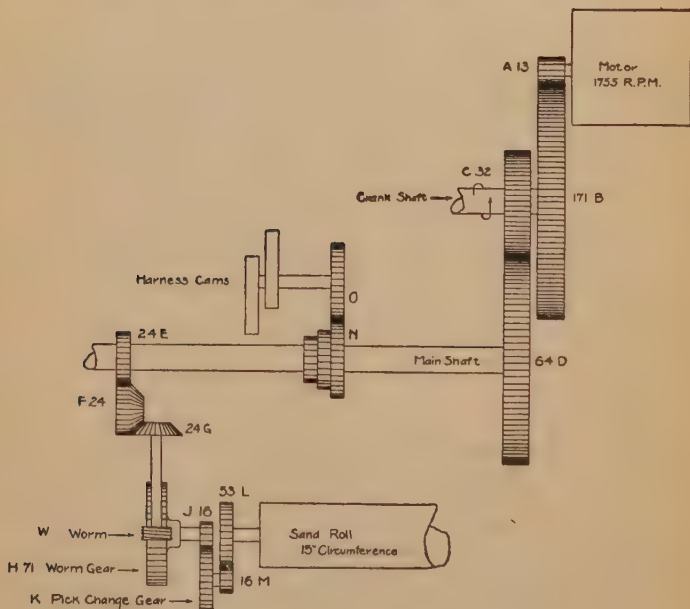

Figure 2. TAKE-UP GEARING OF A LOOM WITH A SINGLE WORM TAKE-UP
4. How many picks per minute does the loom in figure 2 make?
5. If gear *B* (figure 2) were replaced by a 15" pulley driven by an overhead driving pulley making 150 R.P.M., what should be the size of the driving pulley to obtain the picks per minute found in problem 4?
Figure 2 shows a loom equipped with a single worm take-up motion. Each time the worm, *W*, makes one revolution, it takes up one single tooth of the gear, *H*.
15. Following the same method used in working out formula (13) for the loom in figure 1, work out a formula for the pick constant of the loom in figure 2. Then substitute the figures shown in figure 2 and find the pick constant of the loom.
16. Using problem 15, find the pick gear on the loom in figure 2 required to obtain 20 picks per inch.
17. Find the pick gear on the loom in figure 2 required to obtain 73 picks per inch.
It is therefore evident that when it becomes necessary to have harnesses up (or down) only every three, four, five and six picks as in weaving twills and sateens, another arrangement is necessary. Figure 2 shows one arrangement of an auxiliary cam shaft, to which the cams are attached, adaptable to any of the above weaves. It is evident that with a weave requiring harnesses up (or down) every *two* picks,  $C$  (figure 2) must revolve *twice* as fast